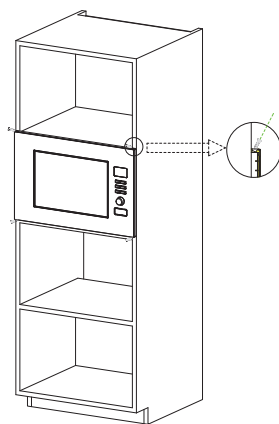

Fig. 2
b) Use the screws of parts packing to secure the microwave oven in the cabinet. (Fig. 2)